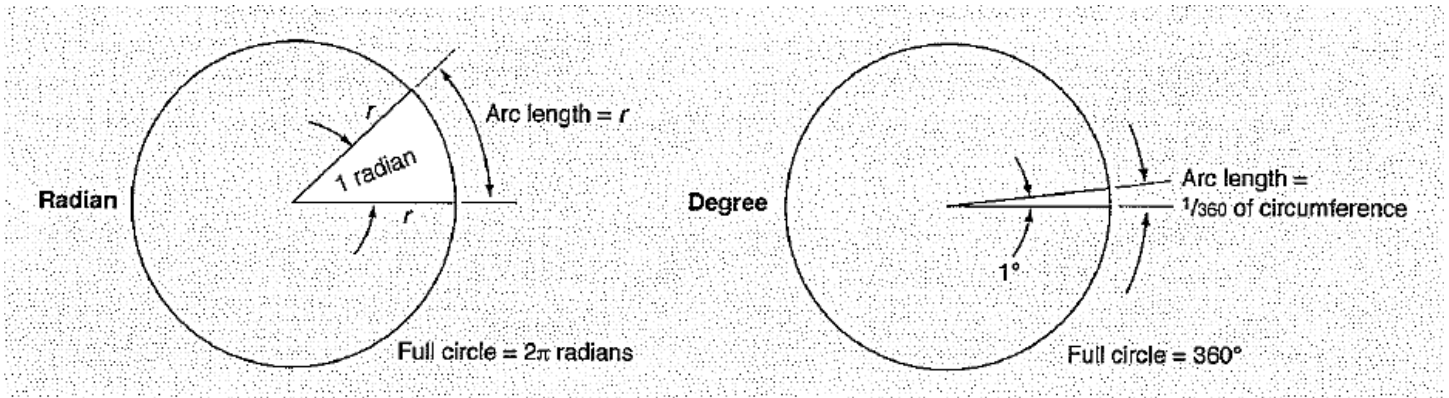

Figure 3.2: Magnetic Field of a Conductor
- 3-32 The angular velocity of the generator is measured in radians per second. The *radian* is a unit of angular measurement, similar to the degree. One radian is defined as the angle between two radii of a circle when they are separated by an arc equal in length to the radius. Figure 3.2, shows this definition and how it compares to the definition of the degree. The following equations compare radians and degrees.